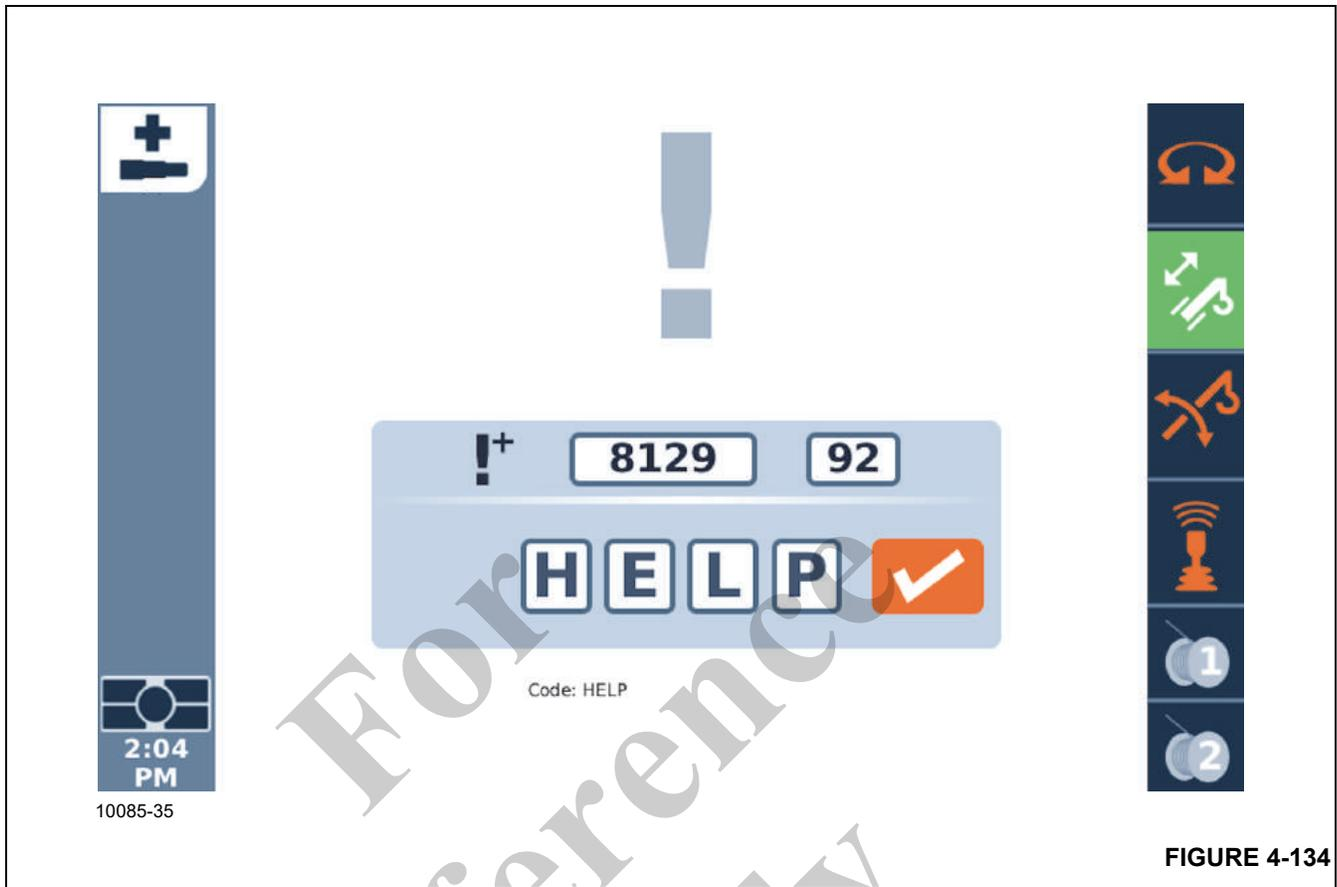

FIGURE 4-134
- Select and confirm the letters H-E-L-P (1, Figure 4-134) – the screen to access the standard Telescoping emergency program is opened.
- Confirm the entry with the symbol (2, Figure 4-134).